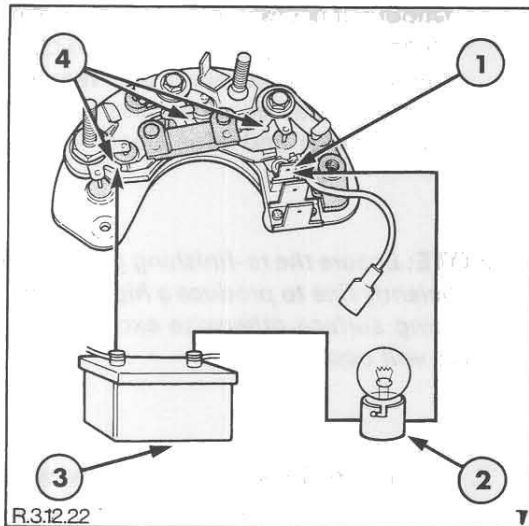

Figure 22
1. Connect a 12 volt battery and a 2.2 watt test lamp in series with the field diode module. Apply the negative test lead to the "IND" indicator terminal and the other lead in turn to each of the field diode module connections. Figure 22.